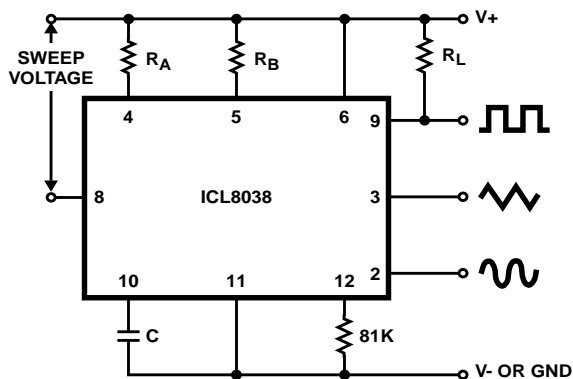

FIGURE 5B. CONNECTIONS FOR FREQUENCY SWEEP
- The hi and lo frequencies can be obtained by connecting pin 8 to pin 7 ( $f_{\text{HI}}$ ) and then connecting pin 8 to pin 6 ( $f_{\text{LO}}$ ). Otherwise apply Sweep Voltage at pin 8 ( $\frac{2}{3} V_{\text{SUPPLY}} + 2\text{V}$ )  $\leq V_{\text{SWEEP}} \leq V_{\text{SUPPLY}}$  where  $V_{\text{SUPPLY}}$  is the total supply voltage. In Figure 5B, pin 8 should vary between 5.3V and 10V with respect to ground.
For larger FM deviations or for frequency sweeping, the modulating signal is applied between the positive supply voltage and pin 8 (Figure 5B). In this way the entire bias for the current sources is created by the modulating signal, and a very large (e.g. 1000:1) sweep range is created ( $f = 0$  at  $V_{\text{SWEEP}} = 0$ ). Care must be taken, however, to regulate the supply voltage; in this configuration the charge current is no longer a function of the supply voltage (yet the trigger thresholds still are) and thus the frequency becomes dependent on the supply voltage. The potential on Pin 8 may be swept down from  $V_+$  by  $(1/3 V_{\text{SUPPLY}} - 2\text{V})$ .